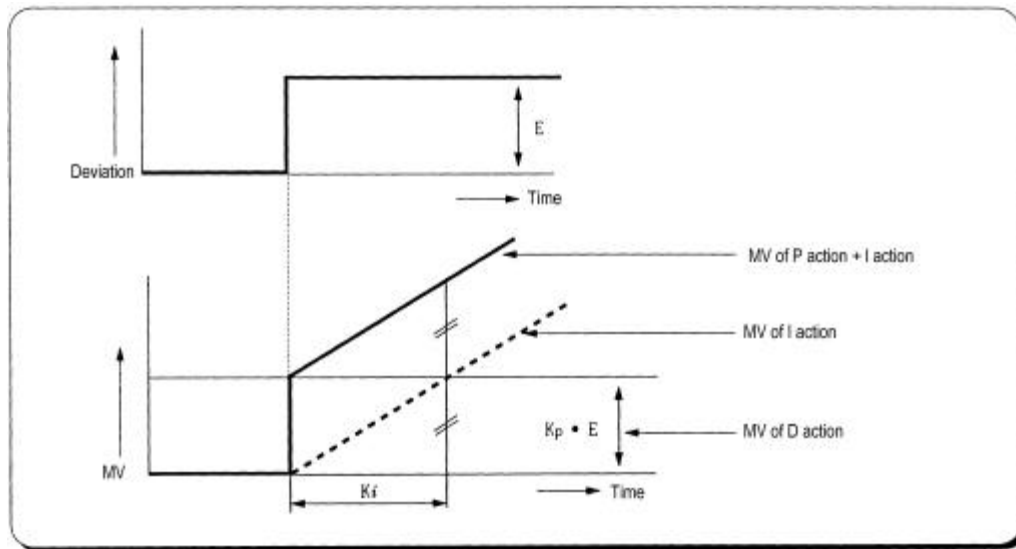

Fig. 15.4 The integral action with constant deviation
- 1) With integral operation, the manipulate value (MV) is increased or decreased continuously in accordance time in order to eliminate the deviation between the SV and PV. When the deviation is very small, the proportional operation can not produce a proper manipulate value and an offset remains between PV and SV. In other hand, the integral operation can eliminate the offset value even the deviation is very small.
- 3) Integral action when a constant deviation has occurred is shown as the following Fig. 15.4.